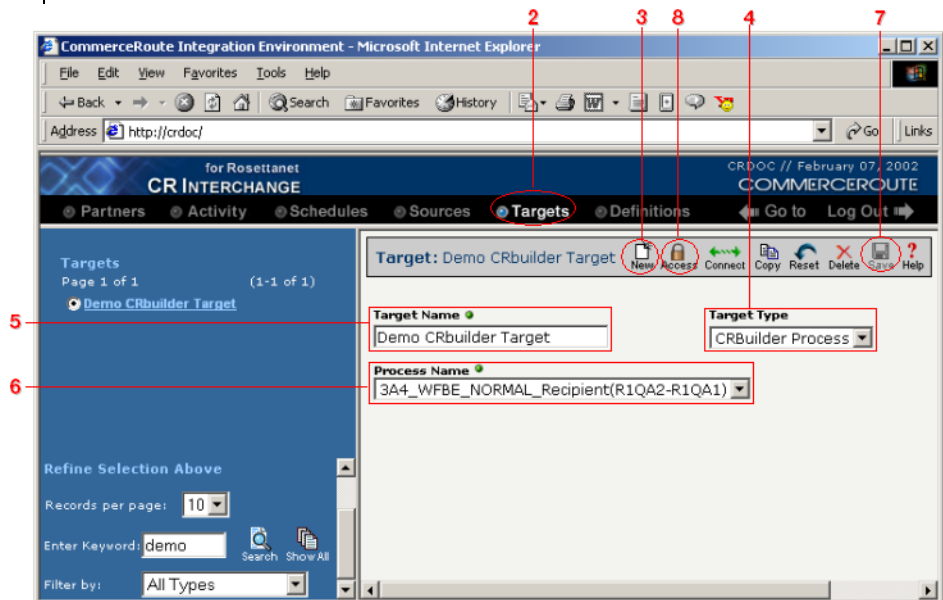

Figure 8-1. Follow the steps listed above to successfully define a new CRbuilder Process target.
Follow these steps to create a new CRbuilder Process target definition. Each step is marked in Figure 8-1 below.
- 7 Click the **Save** button in the toolbar. Compare your definition to that shown in Figure 8-1 below.